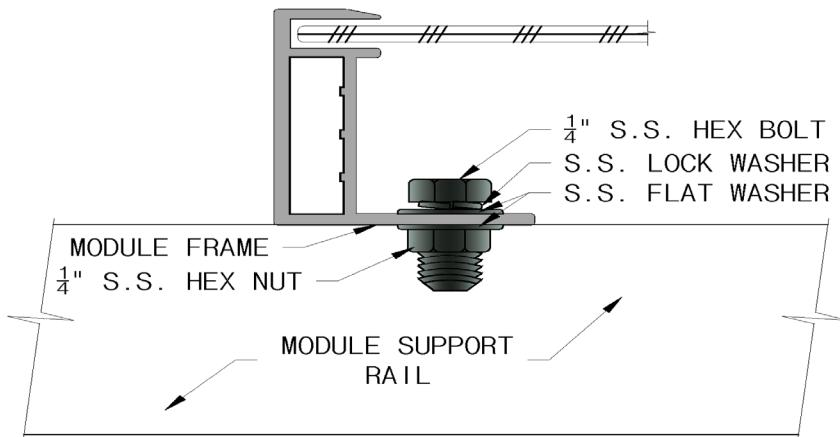

Figure 6B: Illustration of Mounting Hardware
- 2) A quantity of four $\frac{1}{4}$ " (M6) stainless steel bolts with length less than $\frac{3}{4}$ " (20 mm), with four $\frac{1}{4}$ " (M6) stainless steel nuts, washers, and spring washers are recommended for mounting one module. (Figure. 6B).